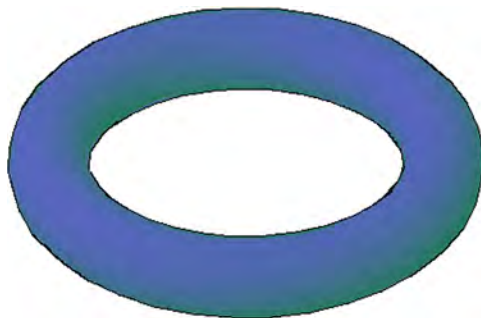

FIGURE 23.23
Step 4. Drag your mouse (or enter a value) and the torus shape is automatically extruded, as seen in Figure 23.23.